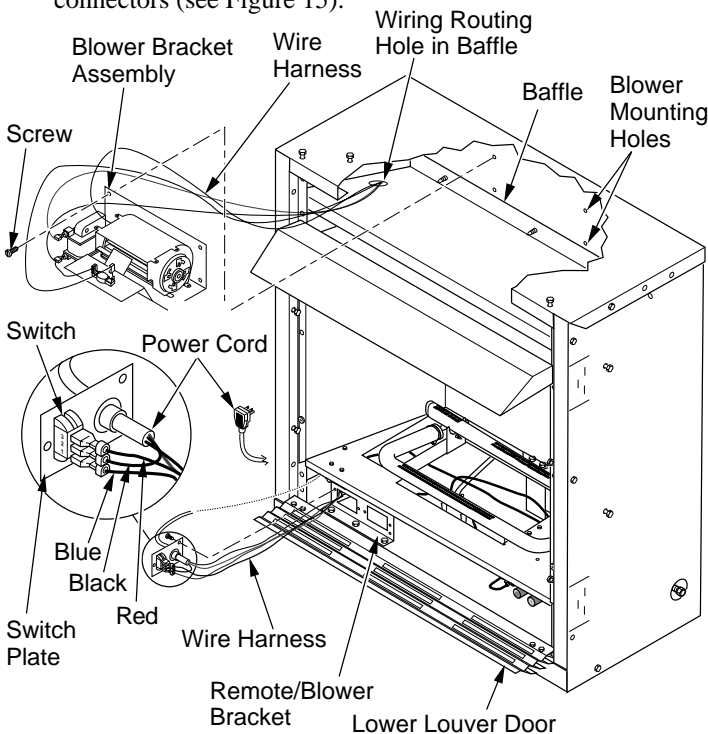
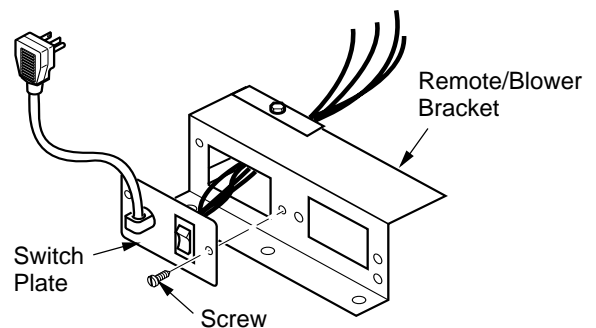

Figure 14 - Installing Blower Bracket Assembly (Remote-Ready Unit Shown)
Figure 16 - Installing Switch Plate to Remote/Blower Bracket
3. Note the wire locations on back of AUTO/OFF/ON switch. The terminals on back of switch are numbered 1, 2, and 3. Carefully remove red wire from terminal 3 and blue wire from terminal 1. Black wire can remain on middle terminal 2 (see Figure 14).
5. In top of the fireplace cabinet, locate the four mounting holes on the outer casing. Align these four holes with those on the blower bracket assembly. Attach blower bracket assembly to the outer casing with 4 #10 screws provided (see Figure 14).
7. Insert the 4 wire harnesses from behind the remote/blower bracket through hole in rear of bracket with bushing and through the left rectangular hole to front of fireplace (see Figure 14).
9. Install the switch plate on the remote/blower bracket with 2 #10 screws provided (see Figure 16). Route power cord out of the cabinet by inserting it through the bushing on the outer casing (see Figure 14). Plug fan kit into 120-Volt grounded power supply and test operation. **Note:** When switch is in the AUTO position, the fan will start after the fireplace has run for a few moments. The fan will continue to run for several moments after the fireplace has been turned off. When switch is in the ON position, the fan will run until turned to OFF.